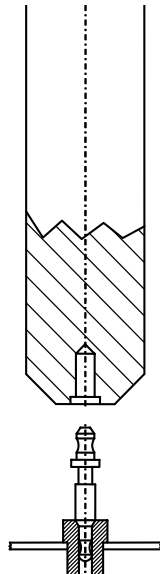

Figure 2
2. Insert the Terminal into the board as shown in Figure 2. Make sure that the underside of the board is supported, as close to the Terminal as possible.